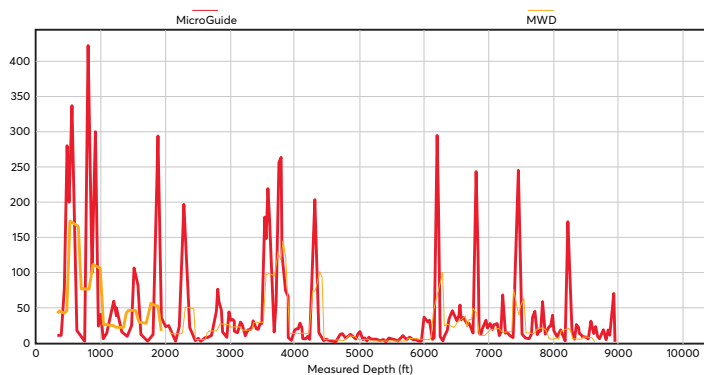

Fig. 1—Areas of high sideloading force were seen throughout the well with MicroGuide, while MWD data showed that sideloading was generally not a concern.
- After running the MicroGuide system in combination with a caliper log, we identified areas of significant sideloading throughout the well where the MWD data showed that there were no issues (**Fig. 1**).